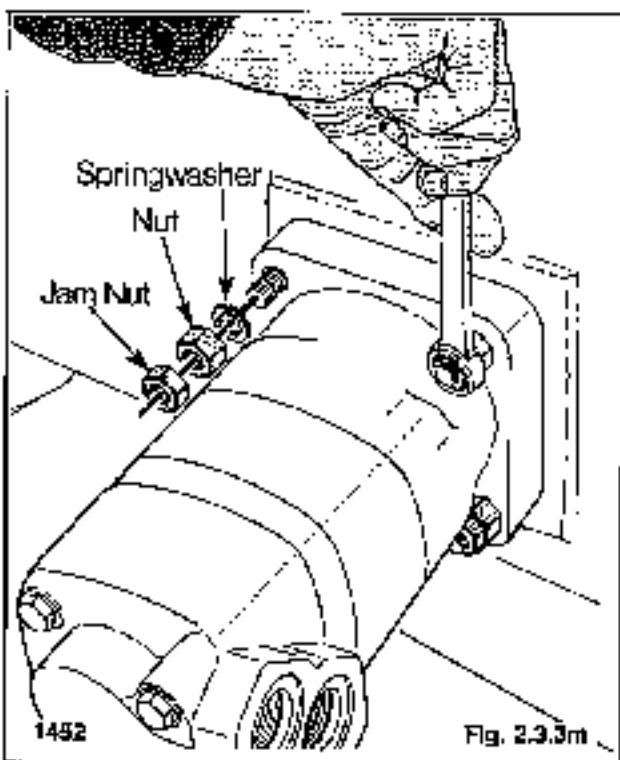

Fig. 2.3.3m
16. Remove the jam nuts, mounting nuts and lockwashers from the torque motor (fig. 2.3.3m).